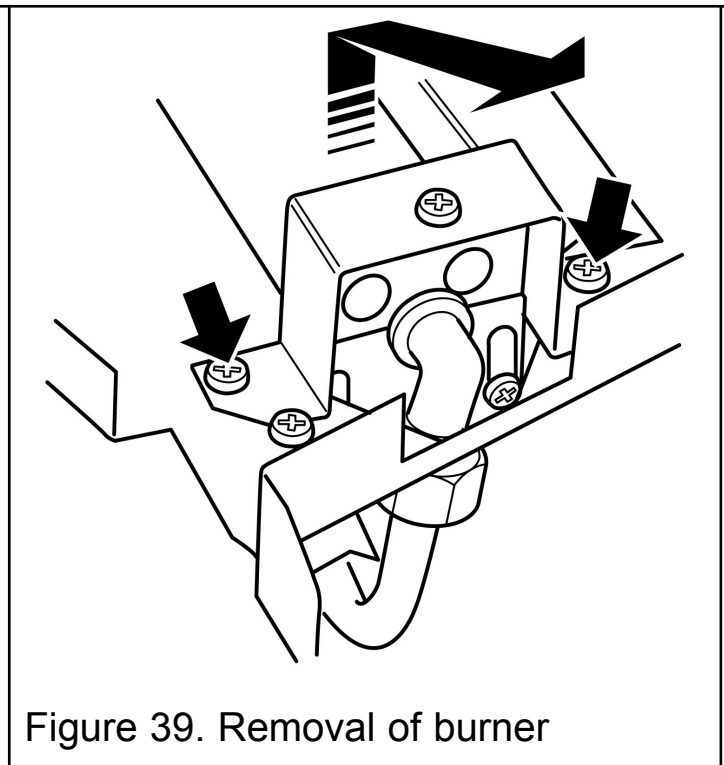

Figure 39. Removal of burner
See figure 39.
3. Remove the two screws from the burner clamping plate (See figure 39)